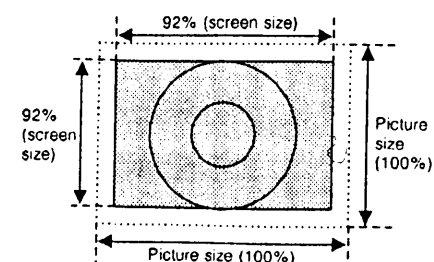

Fig 12.
- 5: Select 2 V-Size and adjust it so the height of the display area is about 92% of the screen height with the (-) or (+) key. (see fig 12.)